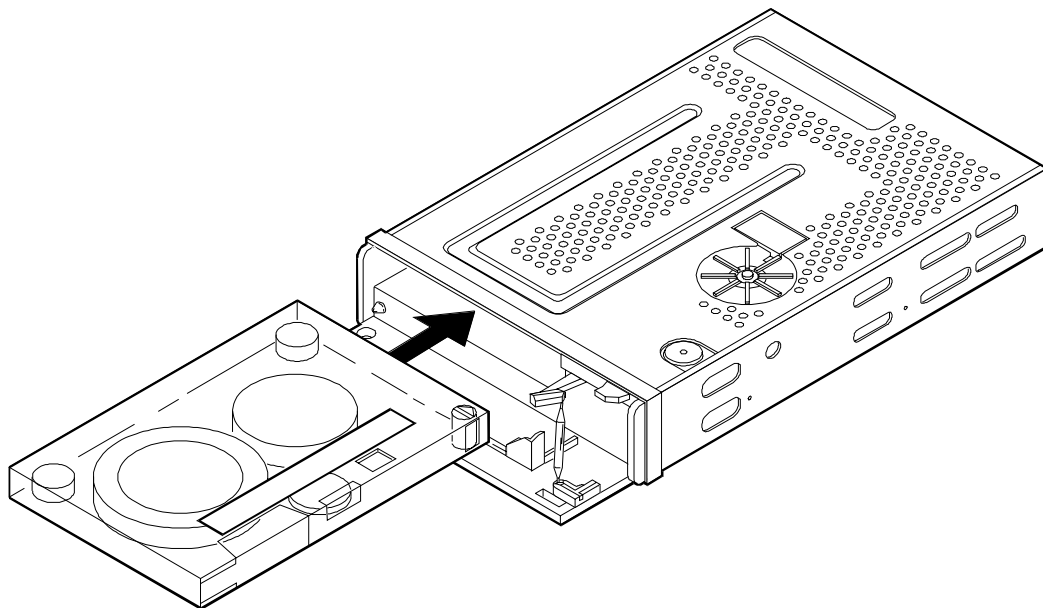

Figure 3-2. Tape Insertion with a 2-Gbyte Tape Drive
- b. Insert the tape (Figure 3-2).